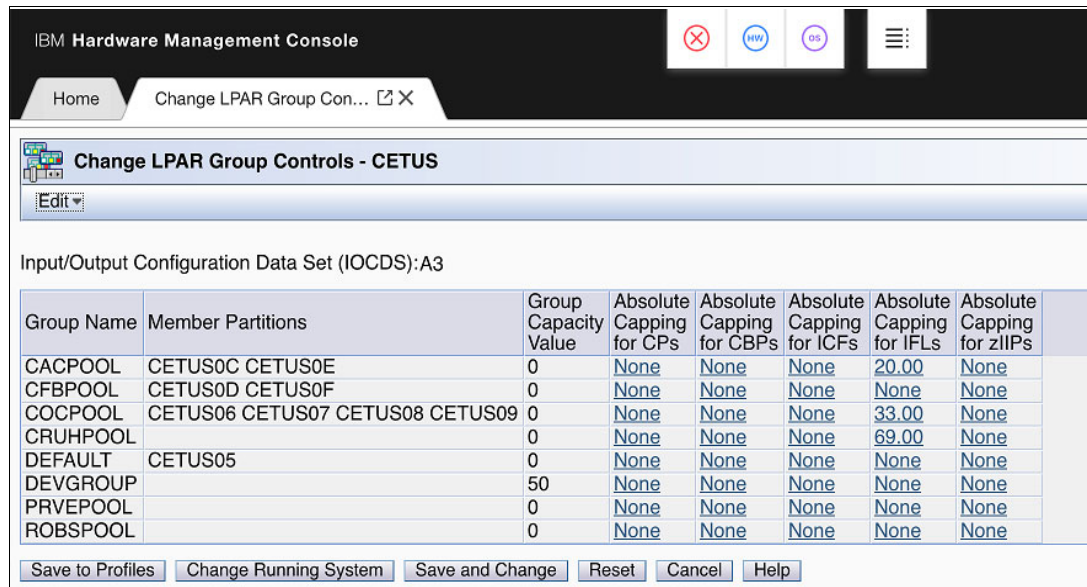

Figure 10-22 Change LPAR Group Controls: Group absolute capping
- ▶ Use Change LPAR Group Controls (as with windows that are used for software group-defined capacity), as shown in Figure 10-22.